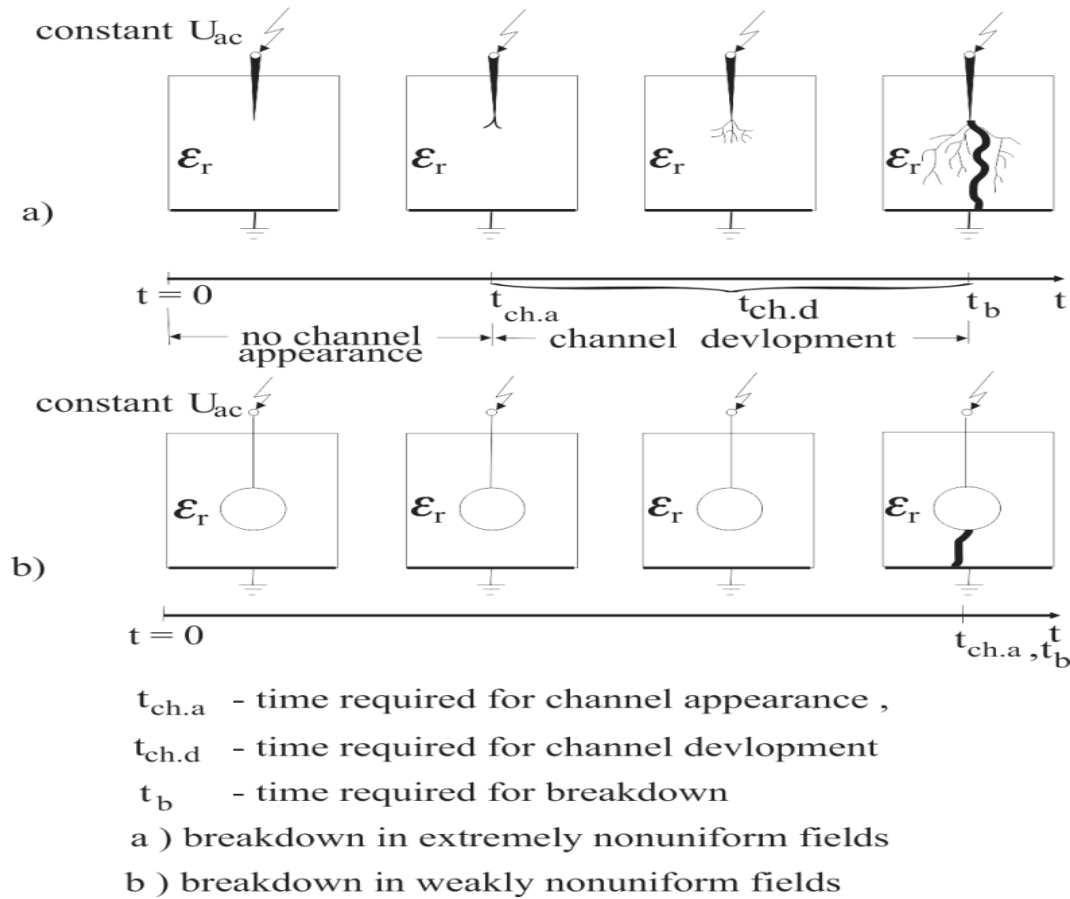

Fig. 11 Development of breakdown in extremely and weakly nonuniform fields with time
**The above photograph of a breakdown channel in weakly nonuniform field in a 20 kV, coaxial PE cable taken by Arora [6.7]. A clean breakdown channel appears to have developed abruptly in the dielectric between the two semi-conductive layers without any PB or treeing process as explained in the schematic in Fig. 11 (b).**